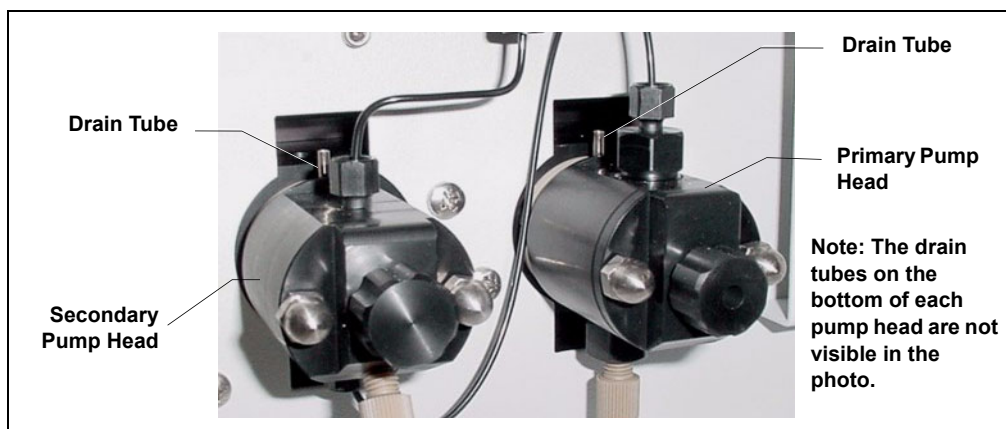
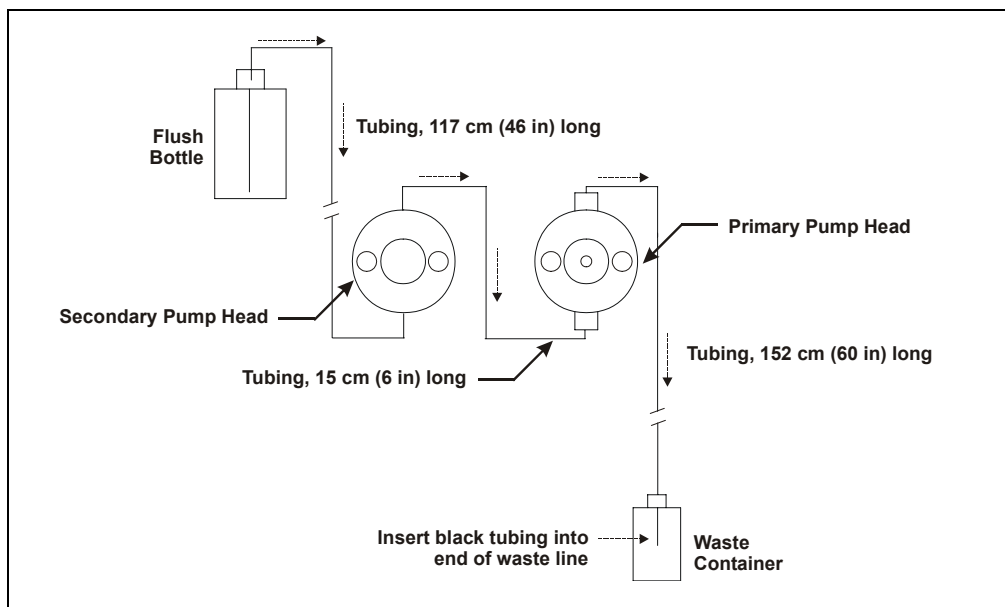

Figure 47. Primary and Secondary Pump Heads with Drain Tubes
Figure 48. Piston Seal Wash Flow Schematic
4. Install the tubing as follows (see Figure 47 and Figure 48):